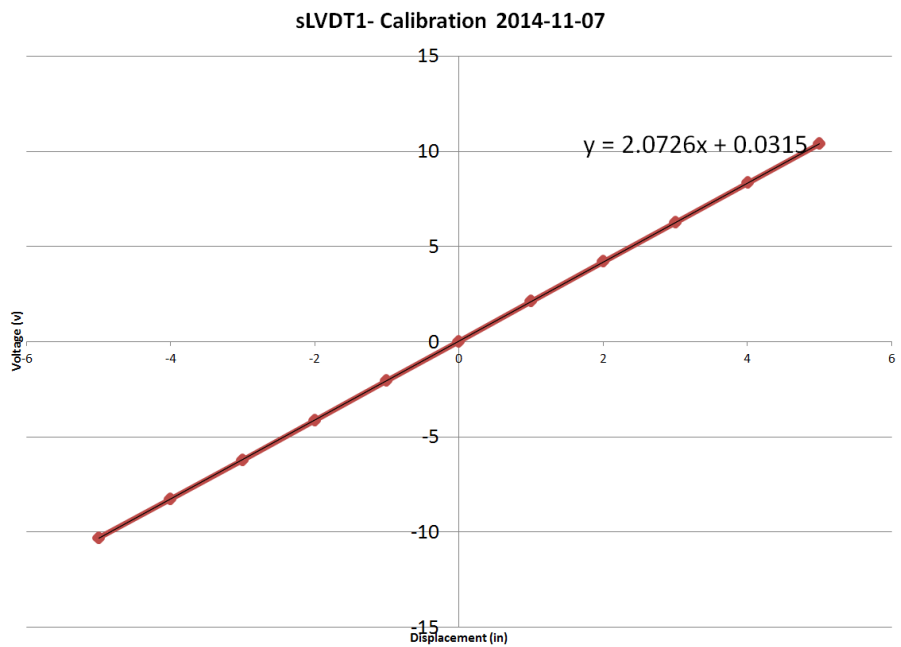

Figure 6-13
5. **Zero** out the caliper by clicking the red button on the caliper as shown in Figure 6-13.